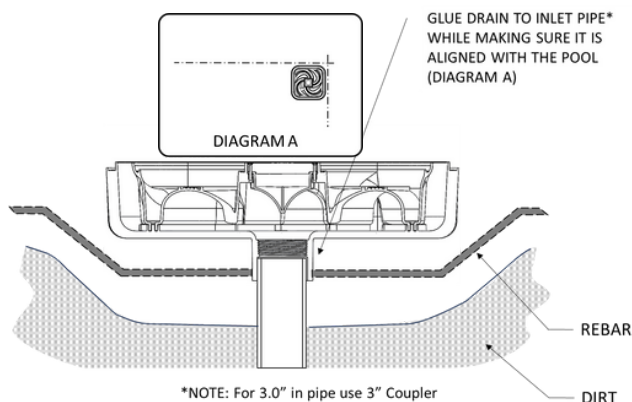

Figure 8
b. Place the Drain (Use Schedule 40 PVC): Dry fit the pipe and the drain together in place. Ensure the drain is level and sits flush with the pool floor to avoid creating any tripping hazards. (See Figure 8). Cut down riser further if needed.